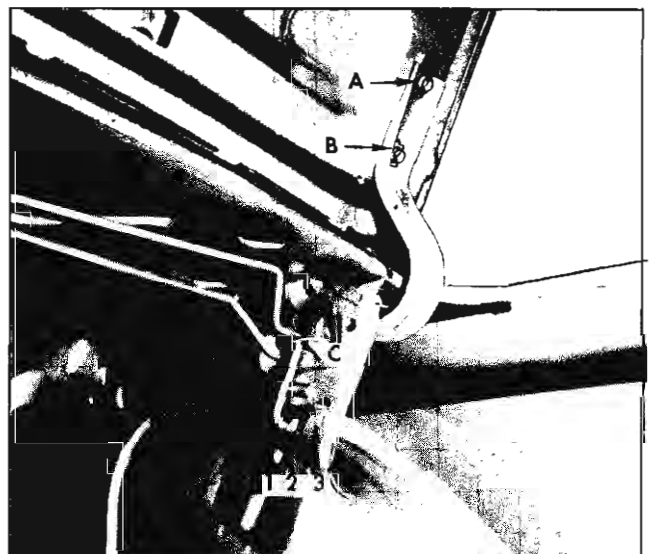

Fig. 14-9 Lid and Torque Rod Attachment
3. With aid of a helper, remove lid attaching bolts A and B (Fig. 14-9) and remove rear compartment lid.
1. To adjust compartment lid forward or rearward, or from side to side in body opening, loosen both hinge strap attaching bolts A and B, (Fig. 14-9) and adjust lid as required; then tighten bolts.
a. To raise front edge of lid at hinge area, place shim between lid inner panel and forward portion of one or both hinge straps at attaching bolt B (Fig. 14-9).
b. To lower front edge of lid at hinge area, place shim between lid inner panel and rearward portion of one or both hinge straps at attaching bolt A (Fig. 14-9).
If the torque rod is located in the most forward notch (1, Fig. 14-9), the amount of effort required to open the lid is the greatest and to close the lid is the least.
If the torque rod is located in the most rearward notch (3, Fig. 14-9), the amount of effort required to open the lid is the least and to close the lid is the
5. Remove hinge to lid inner panel attaching bolts A and B (Fig. 14-9).
6. Bend back hinge pin retaining tab (C, Fig. 14-9); then remove hinge pin and hinge.